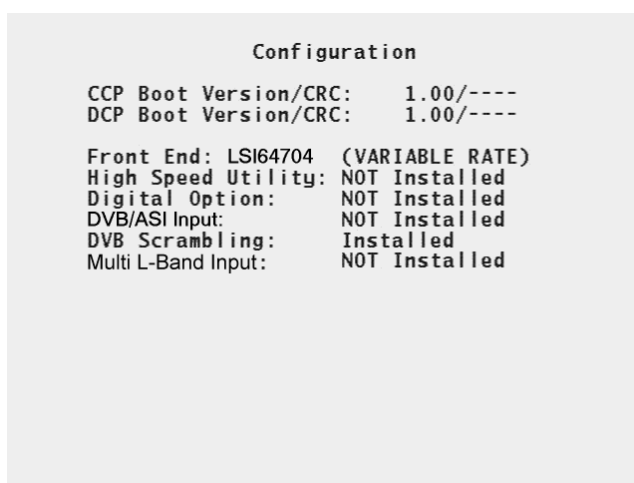

Figure 3-6. Configuration menu
Step 2. Press 8 to display the Configuration menu (see Figure 3-6).